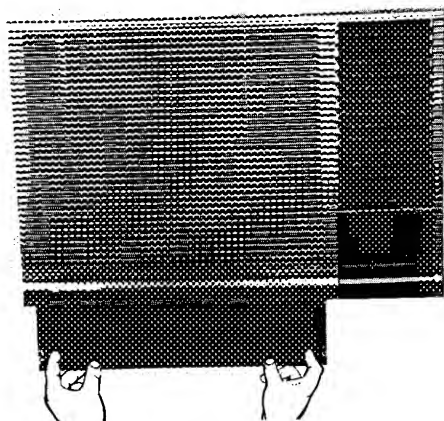

Fig. 1 — Removing Filter
1. Place index fingers inside the openings on either side of the filter frame. See Fig. 1.